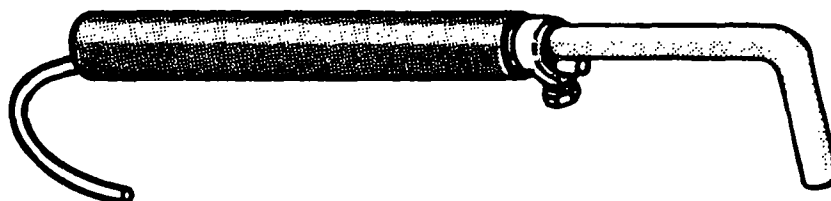

Figure E-3. Static Discharge Wand Hook
Step 5 - Bend the last two inches of the rod 90 degrees to form a hook to connect to the helicopter cargo hook (Figure E-3).